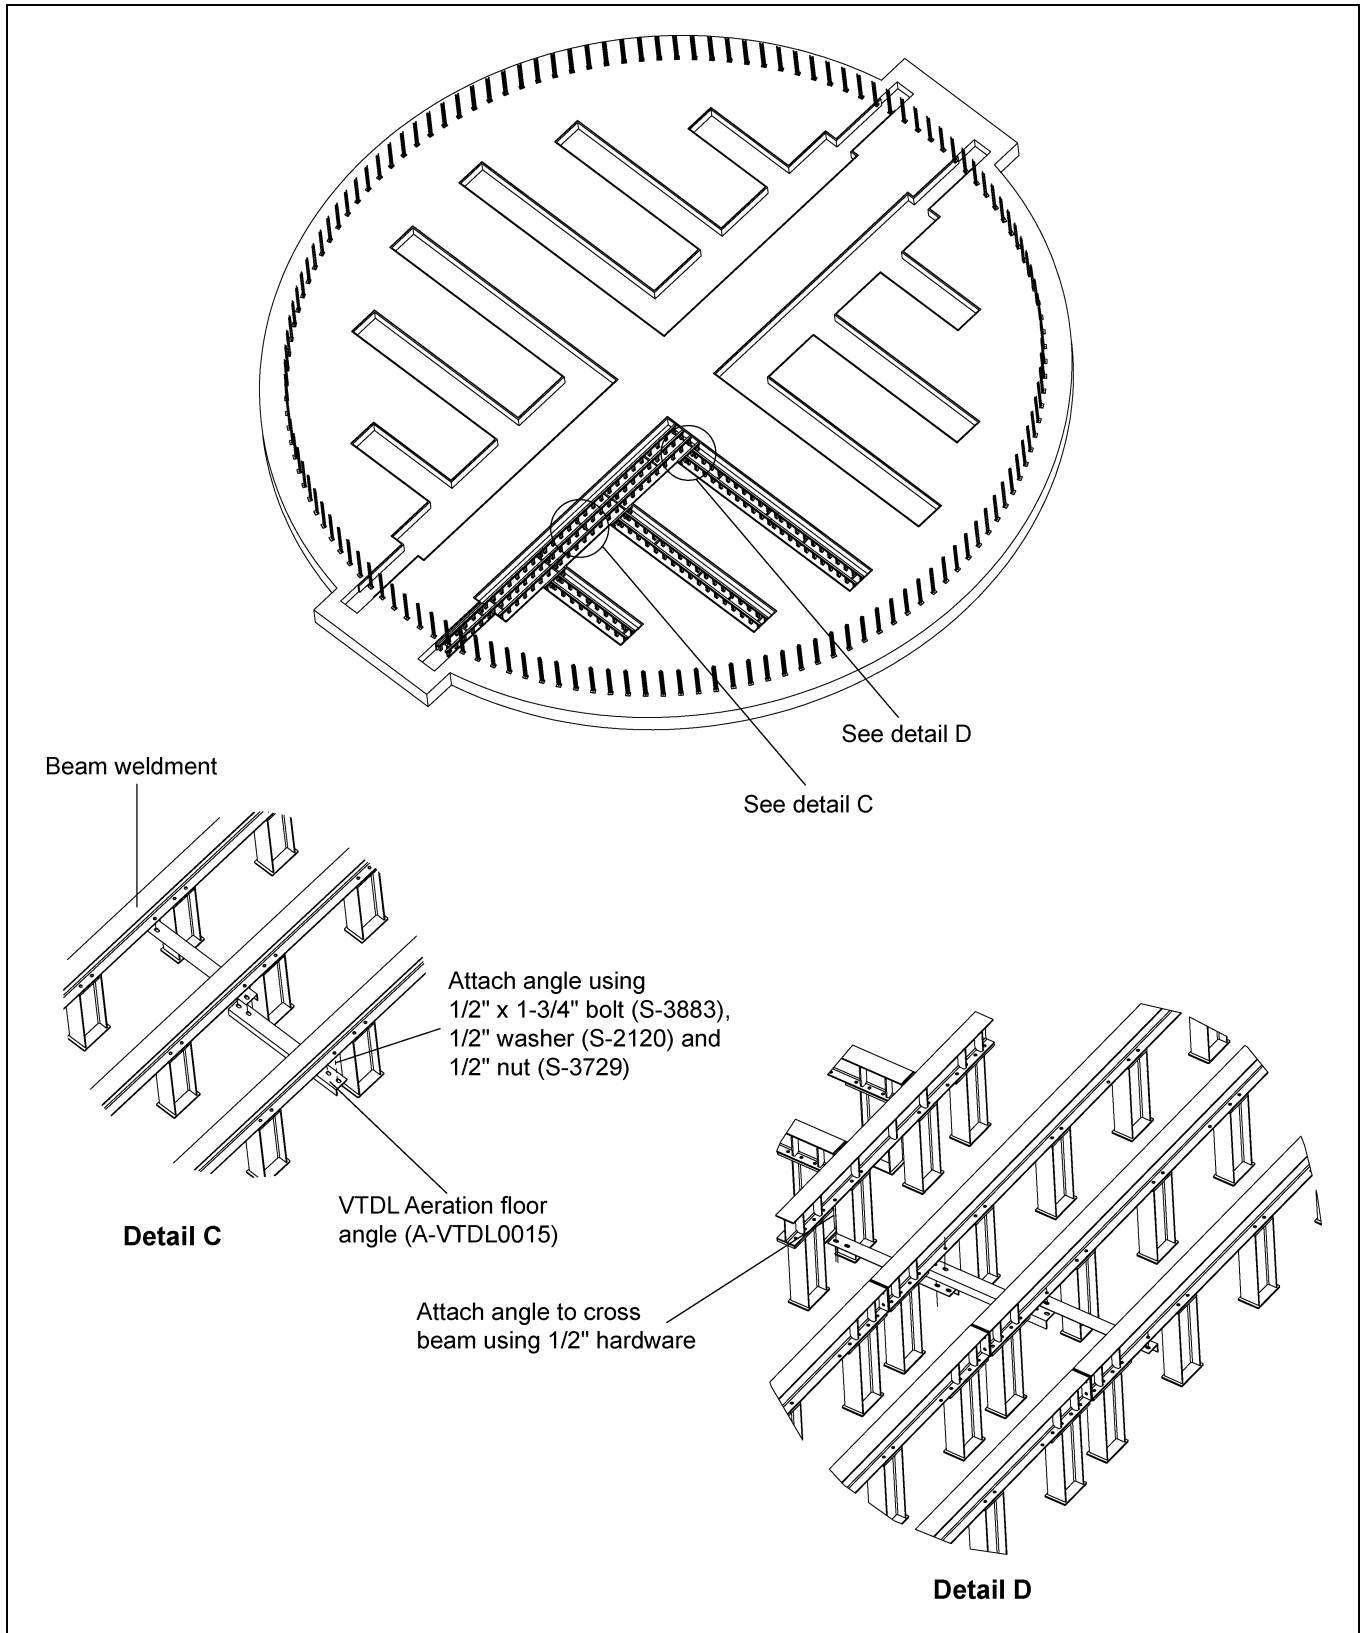

Figure 2D
4. Attach VTDL aeration floor angle to beam weldments at both ends, using both slots. 1/2" Hardware used to attach the angle. See detail D *below* for instructions on how angle attaches to cross beam. (Twelve (12) locations.) (See Figure 2D.)